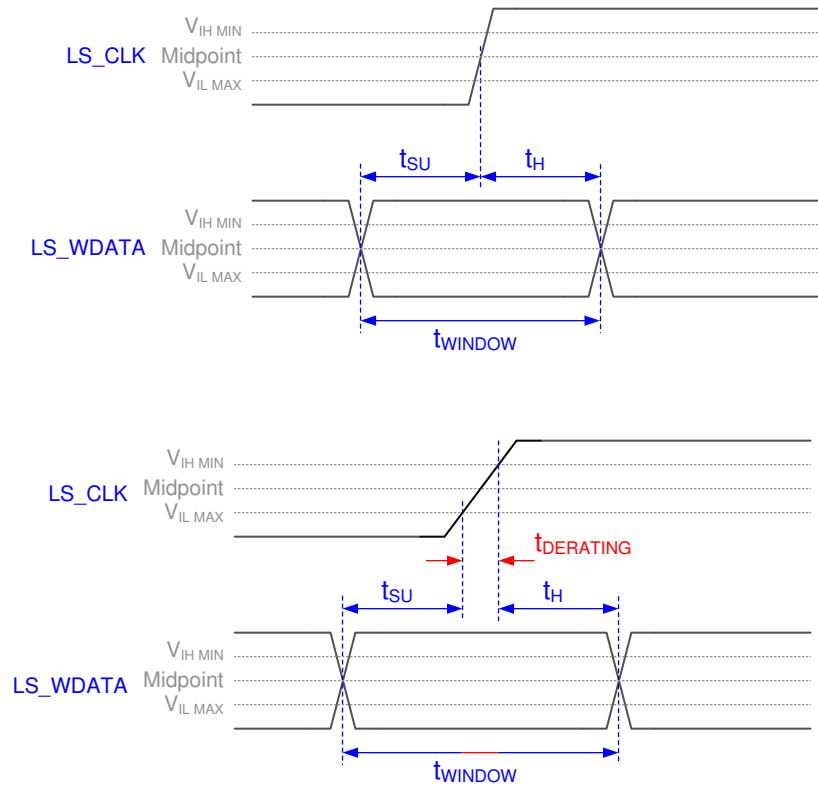

图 6-5. Window Time Derating Concept
| t _{DERATING} | Window time derating ^{(1) (3)} | For each 0.25 V/ns reduction in slew rate below 1 V/ns, 图 6-5 | | 0.35 | | ns |